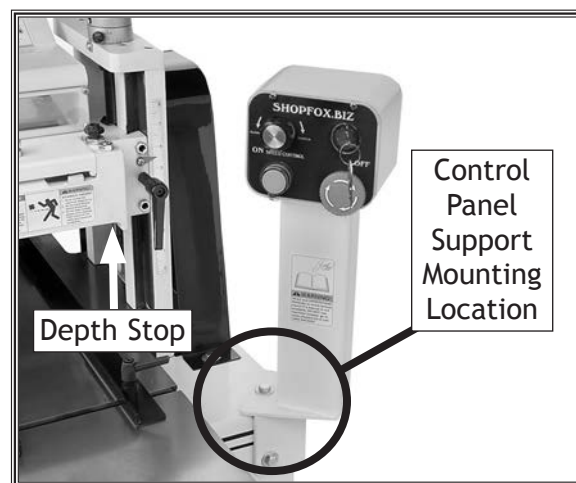

Figure 14. Control panel support installation.
11. Feed the control panel wiring harnesses through the hole in the stand, and secure the pedestal control panel to the stand, as shown in **Figure 14**, using three $\frac{5}{16}$ "-18 x 1" hex bolts and $\frac{5}{16}$ " flat washers.
Note: A $\frac{5}{16}$ "-18 x $\frac{3}{8}$ " Phillips head screw is pre-installed in the headstock to keep the moulding knives clear of the table surface when the headstock is at its lowest position. To replace the screw with the included $\frac{5}{16}$ "-18 x 1" depth stop bolt and hex nut, simply remove the screw, thread the bolt with the nut into the hole, then tighten the nut against the headstock at the location shown in **Figure 14**.